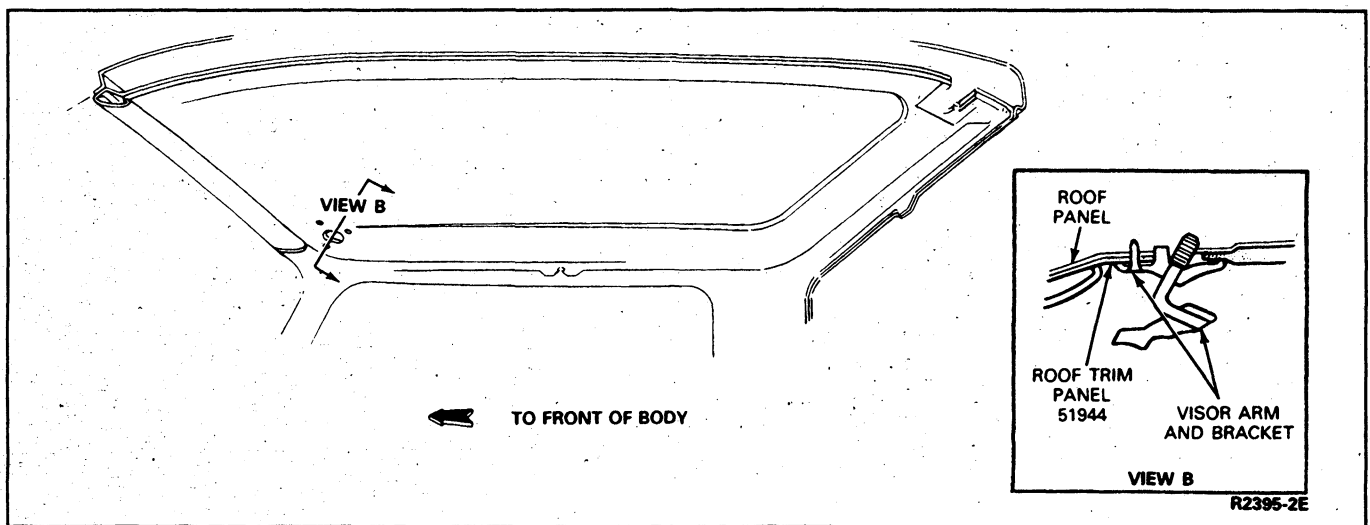

FIG. 12 Roof Headlining Assembly—F-150—F-350 and F-Super Duty
3. Remove the roof side inner front mouldings (Figs. 12, 13 and 14).
5. Install the garnish and tighten mouldings (Figs. 12, 13 and 14).